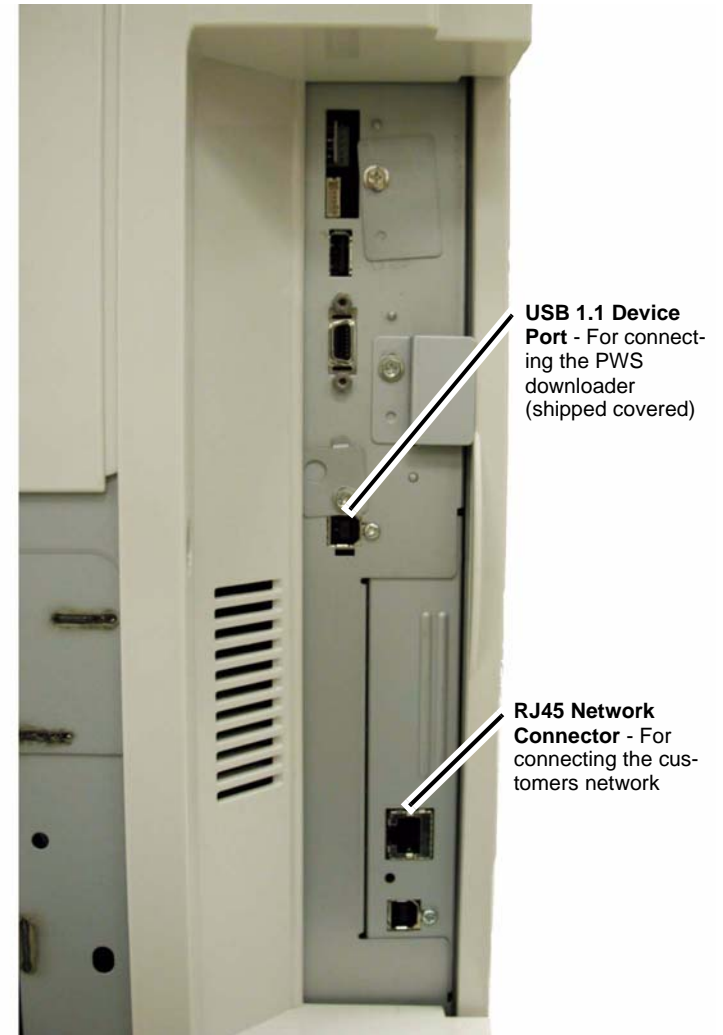

Figure 1 WC 7132 Connections
1. Remove the cover from the USB Diagnostic port (Figure 1).